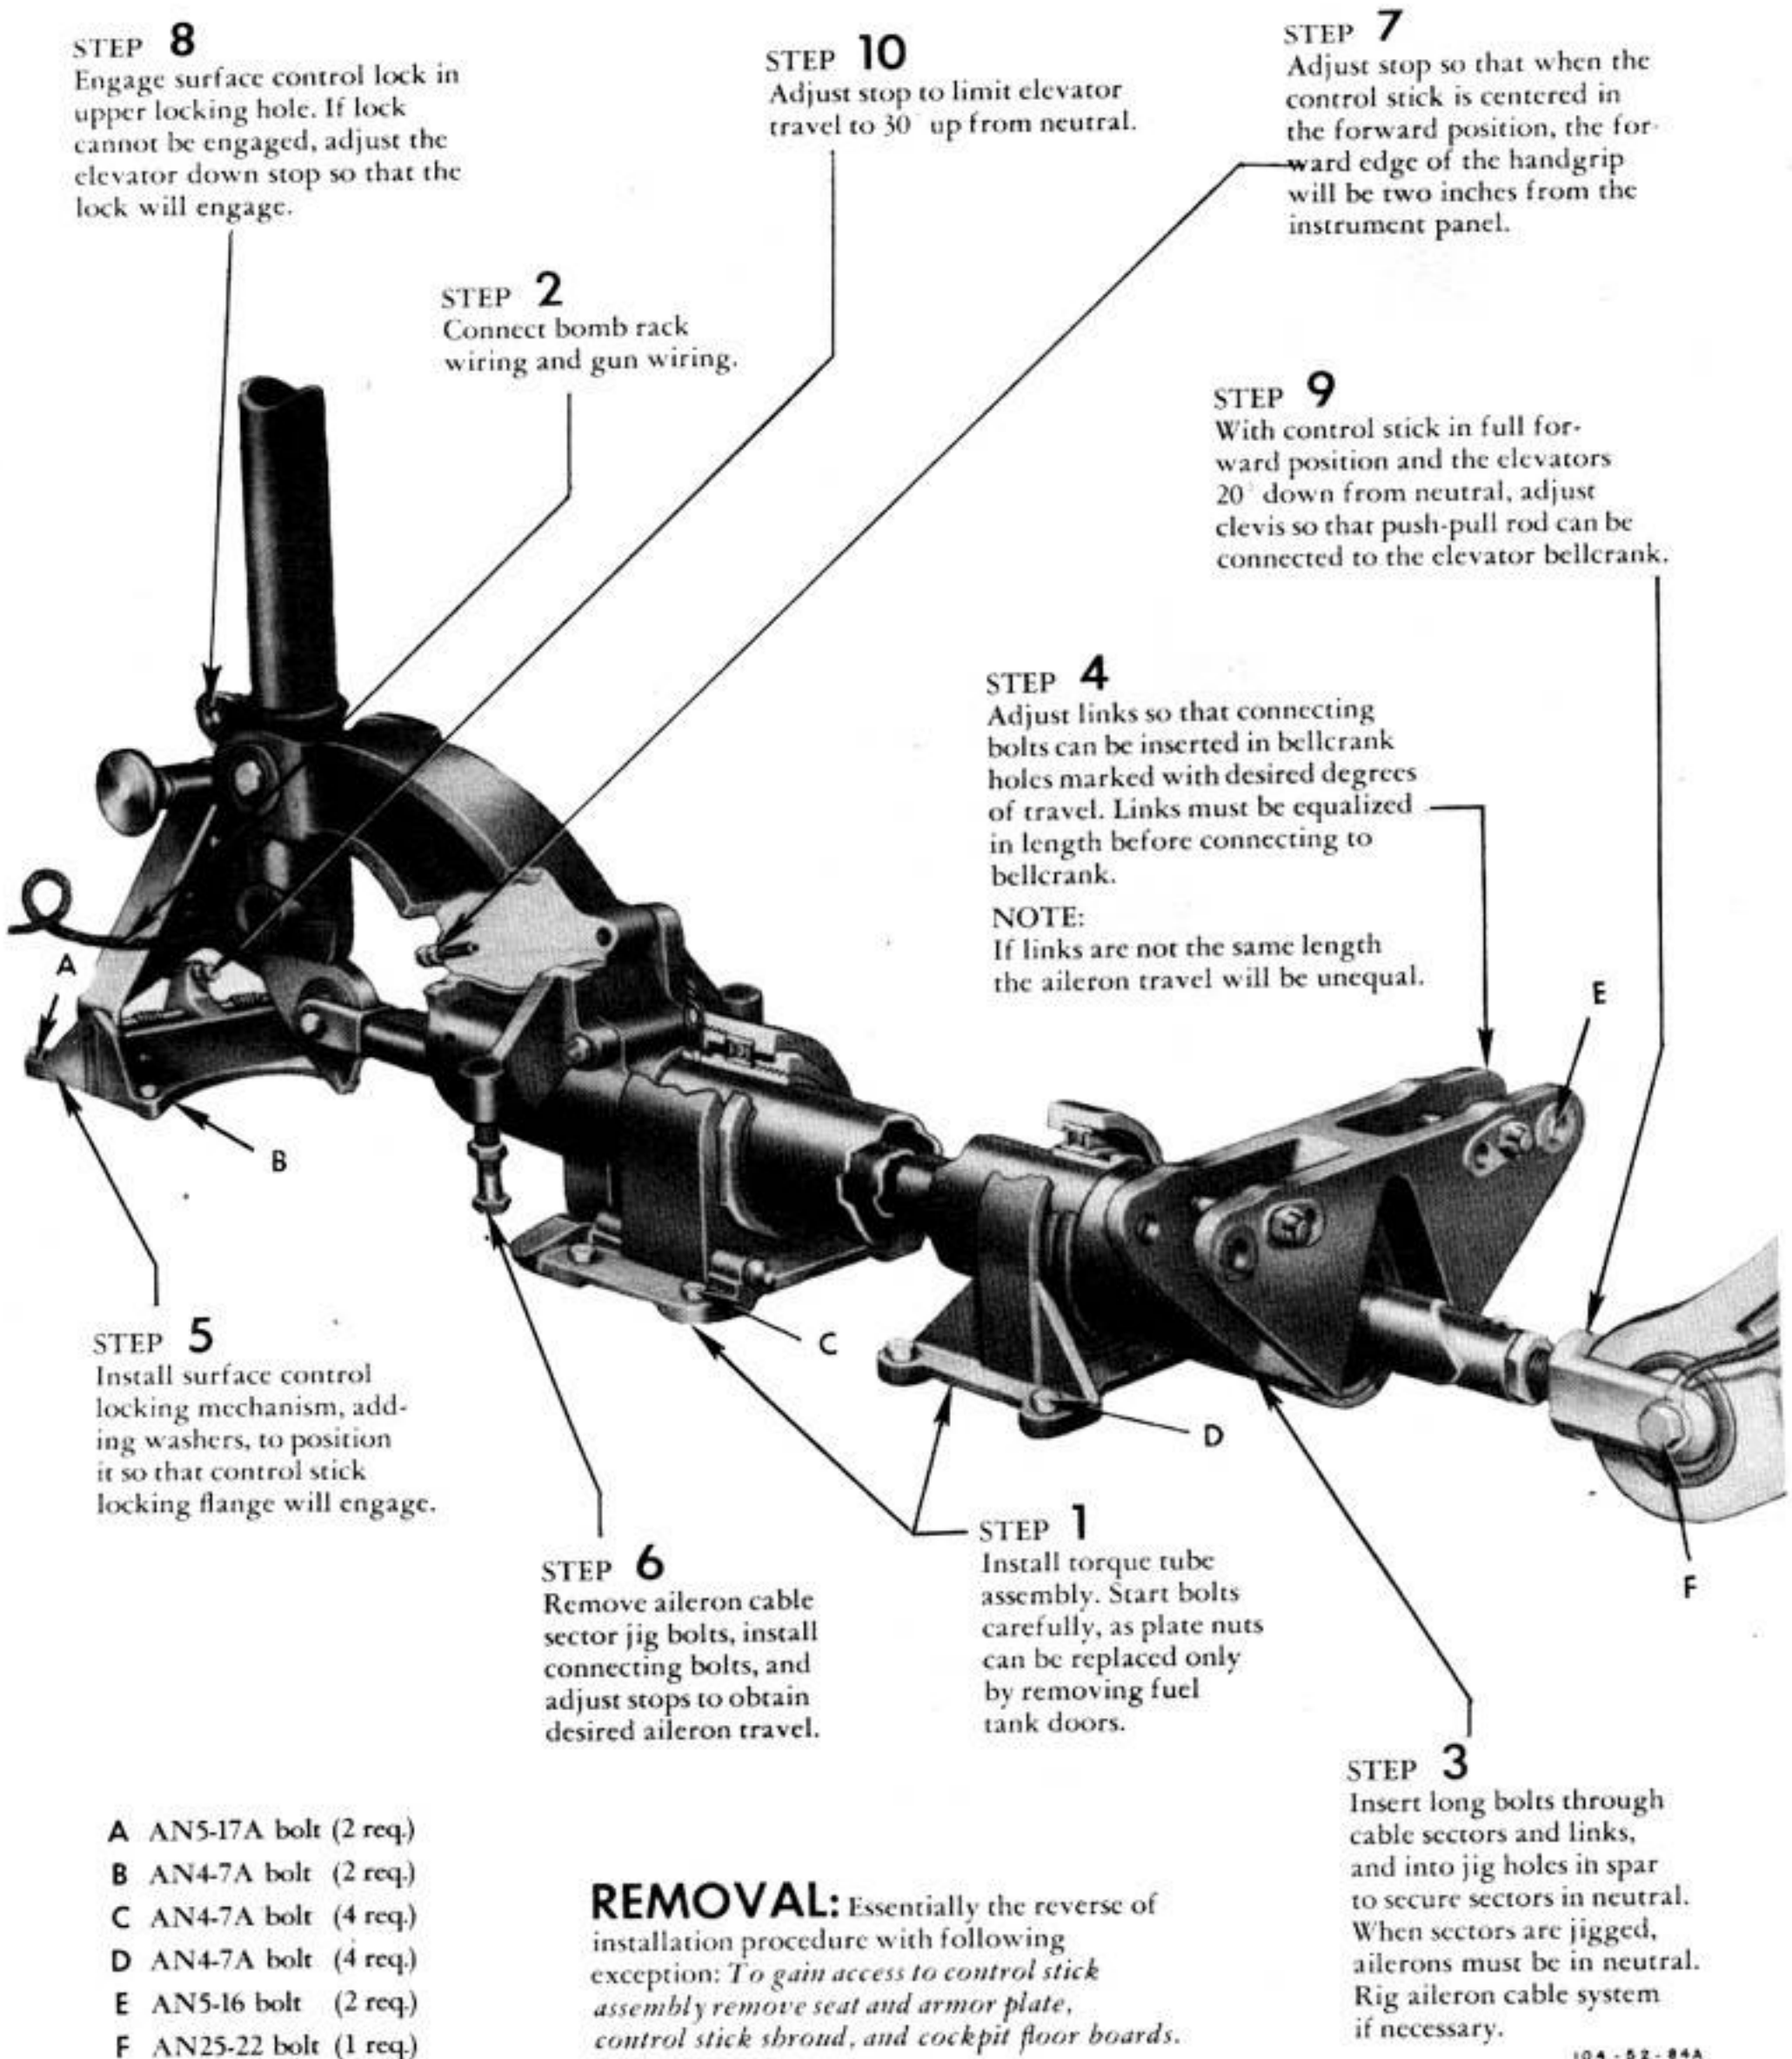
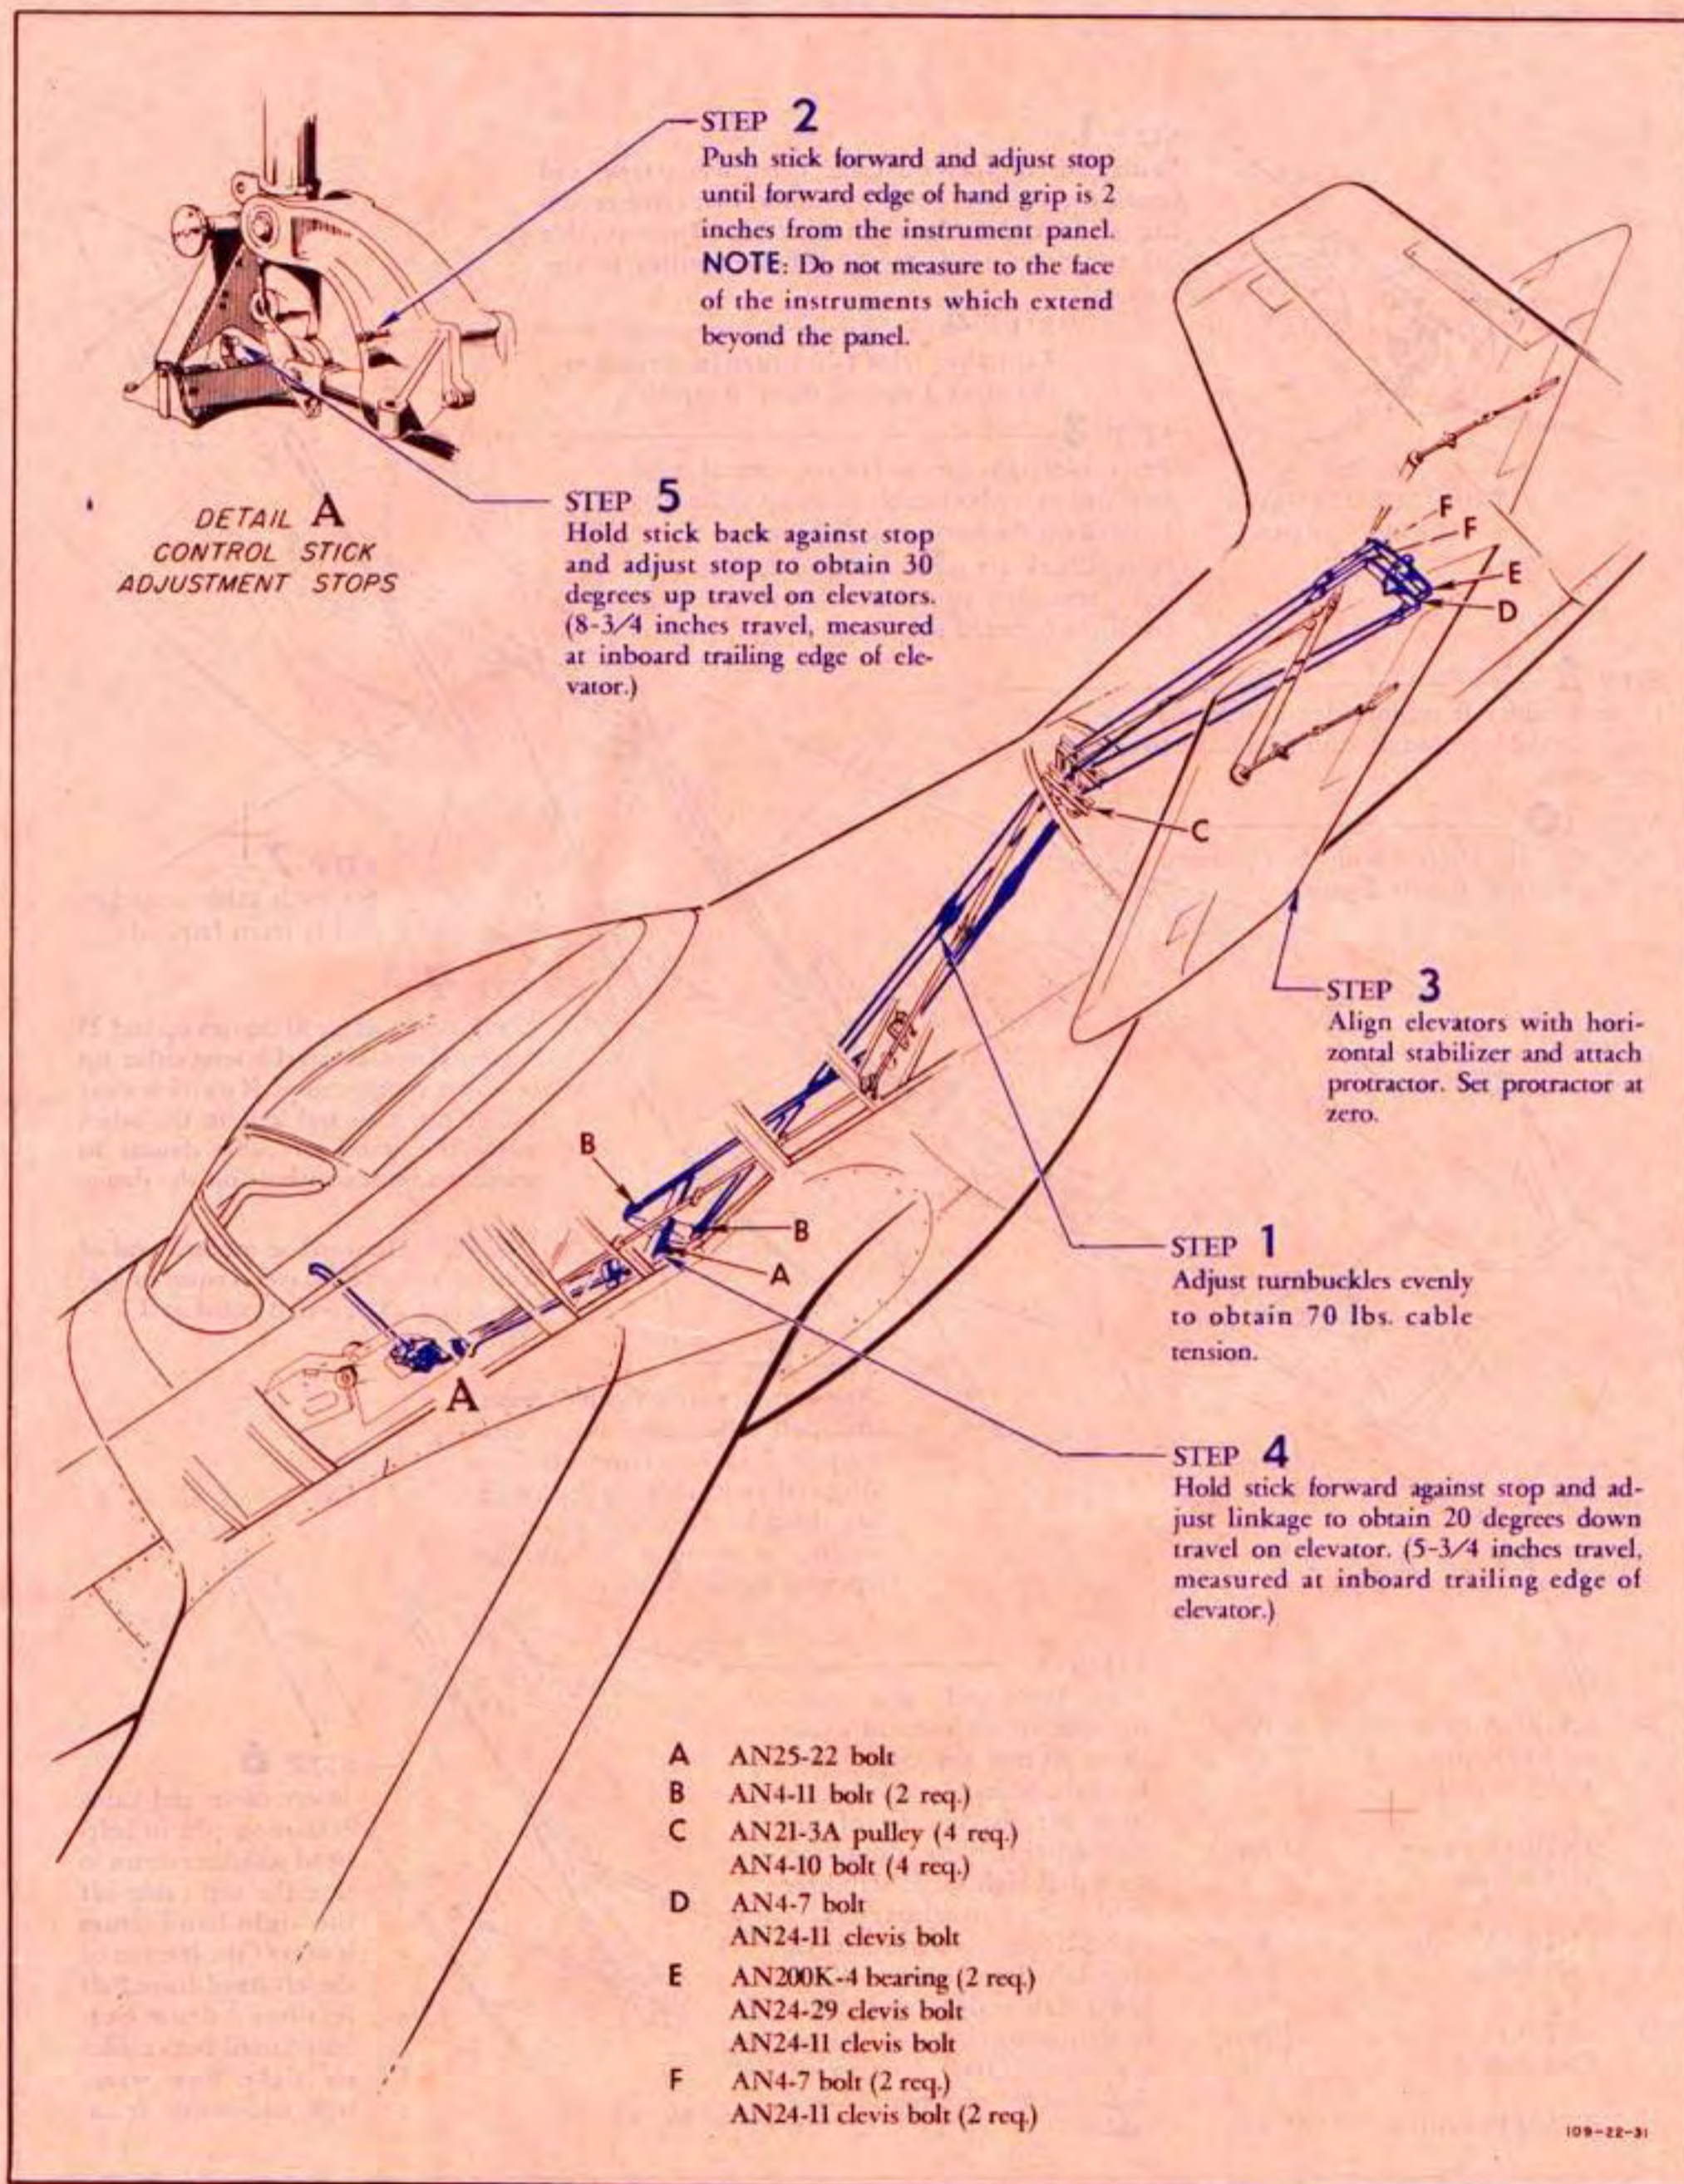

Figure 101—Installing Control Stick and Locking Mechanism
Figure 108—Elevator Control System
(1) DESCRIPTION.—The control stick is a swaged tube of aluminum alloy, the upper end of which is fitted with a plastic pistol-type grip. The lower end of the tube is fitted into a socket which is mounted in a trunnion-like manner on a fitting integral with the aileron torque tube. The aileron torque tube has stops to limit the movement of the ailerons. (See figure 101.)
(1) DESCRIPTION.—The surface control locking mechanism is installed forward of the base of the control column. (See figure 101.) The lock is an inverted V-shaped bracket, slotted at the top and fitted with a spring-loaded plunger which will engage either of two holes in the locking flange on the control stick. Engaging the lock in the upper hole locks the ailerons and rudder in the neutral position and the elevators in the down position. Engaging the plunger in the lower hole locks all the control surfaces in the neutral position.
(1) DESCRIPTION.—The elevators are controlled by the fore-and-aft movement of the control stick. A push-pull rod connects the control stick to the elevator bellcrank mounted on the flap torque tube. (See figure 108.) A dual set of cables extends aft from the bellcrank to the elevator horn assembly which is pivoted on a bracket in the horizontal stabilizer. (See figure 108.) Elevator travel is limited to 30 degrees up and 20 degrees down by adjustment bolts on the base of the control stick and surface control lock. (See figure 101.) To gain access to the elevator cables, remove the dzus-fastened dome at the aft end of the radiator air scoop, and the fairing attached to the dorsal fin, the horizontal stabilizer, and the vertical stabilizer; also remove the access door below the horizontal stabilizer and the wing trailing edge to fuselage fairing.
(2) INSTALLATION, REMOVAL, AND ADJUSTMENT OF THE ELEVATOR CONTROL SYSTEM. (See figure 108.)